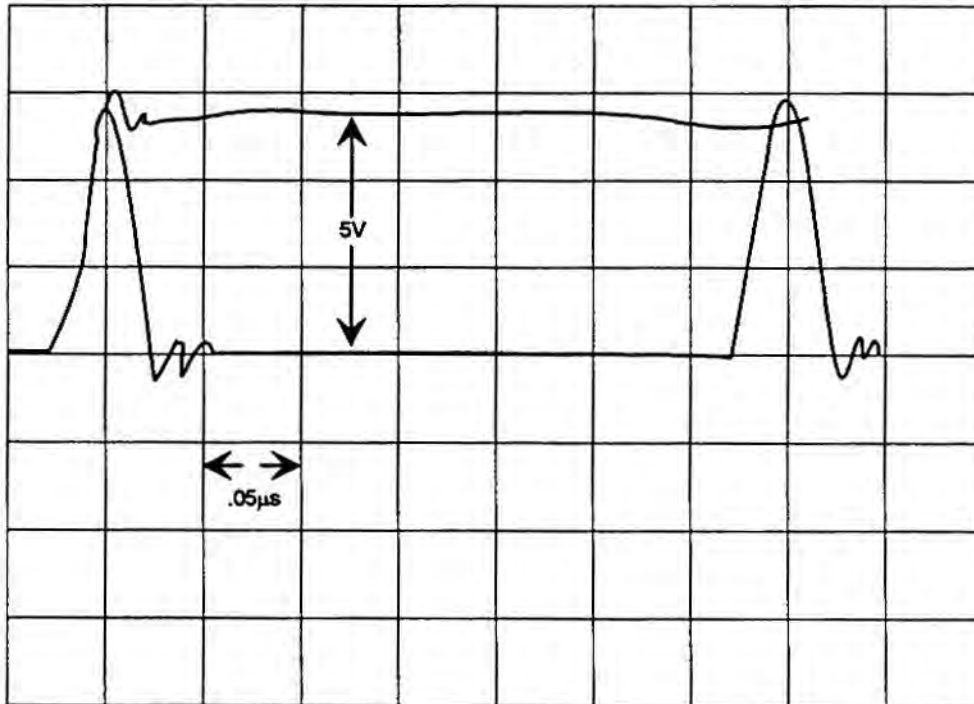
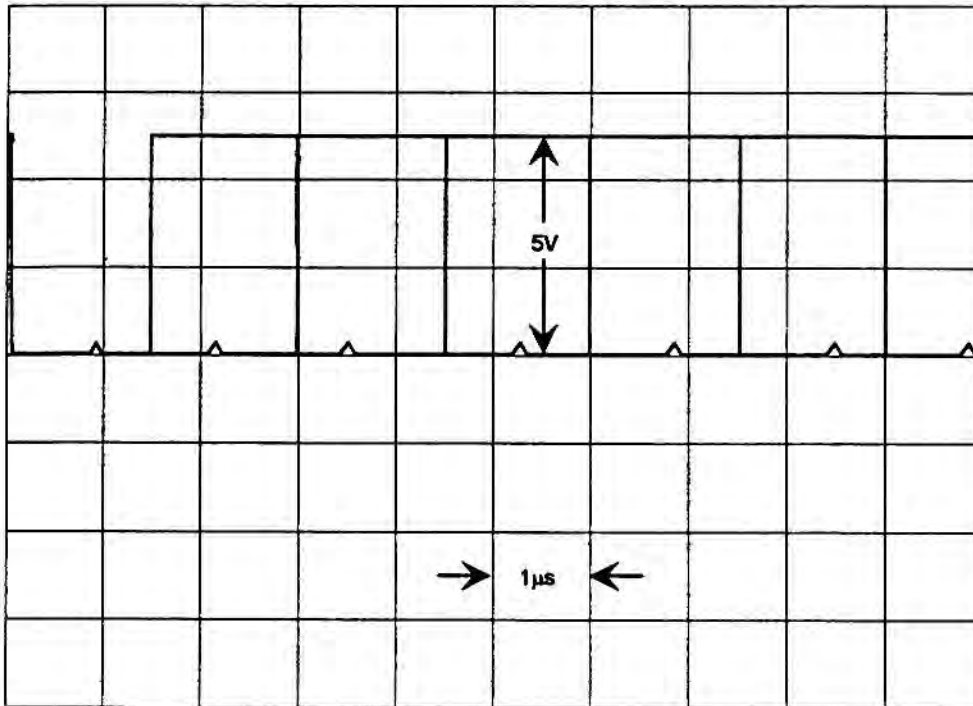

FIGURE 4-6. Typical Signal Trace for Data Lines (D0-D15)
FIGURE 4-12. Signal Trace of LCD Output Signal (D)
6. If the address lines are correct, check the data lines, D0-D15, U31-1 through U31-5 and U31-58 through U31-68. Signals should be as shown in Figure 4-6. They should vary between 0 and +5 volts. If any data line is a constant 0 or +5 volts, or is varying to a voltage level less than +5 volts, replace U31.
2. If the ELCD signal is correct, check output to LCD on J5-1. Signal should be as shown in Figure 4-12. If the output signal is not correct, check display data inputs to U27 at U27-21 through U27-28. Signals should be present as shown in Figure 4-6.